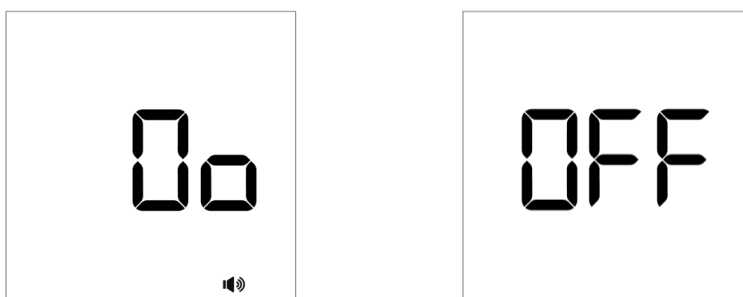

Fig 5.16
- Press the right or left button to select “On” or “OFF” to set the sound. The sound will be turned on and sound symbol will appear on display if “On” is selected.(Ref Fig 5.16)